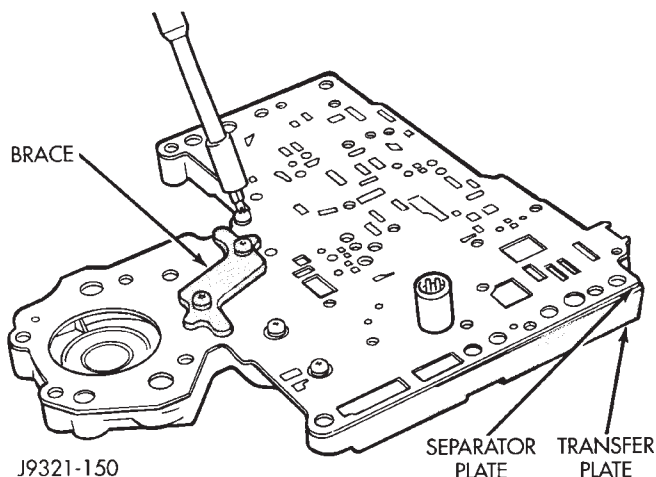

Fig. 108 Brace Plate Removal—46RH
(22) Turn transfer plate over so upper housing separator plate is facing upward (Fig. 108).
(23) Remove brace plate from lower housing separator plate and transfer plate (Fig. 108).
- (4) Install brace plate (Fig. 108). Tighten brace attaching screws to 4 N•m (35 in. lbs.) torque.
- (5) Install remaining separator plate attaching screws. Tighten screws to 4 N•m (35 in. lbs.) torque.